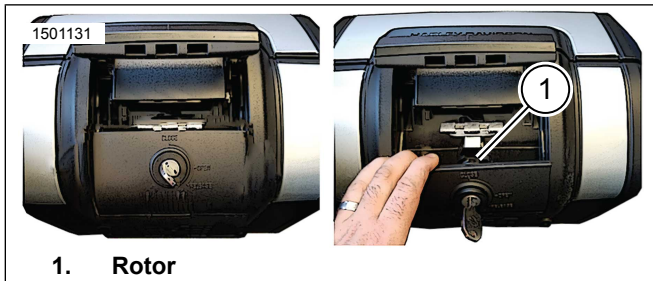

Figure 6. Access to Rotor
- Figure 6 Pull release lever to access rotor (1).